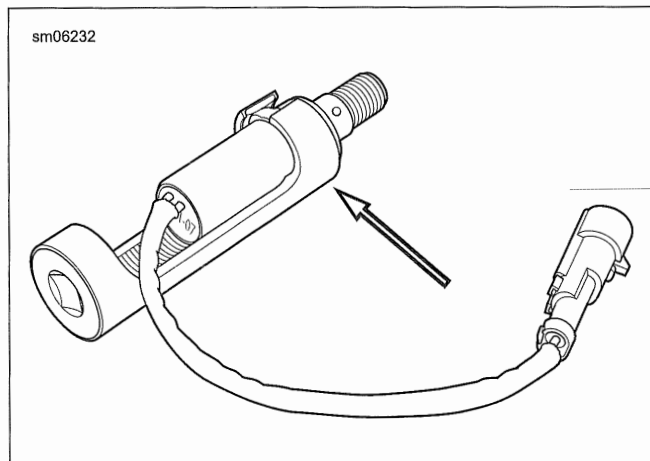

Figure 7-128. ACR Solenoid Socket and ACR
2. See Figure 7-128. Remove ACR using a locally sourced ACR SOLENOID SOCKET.
4. See Figure 7-128. Using a locally sourced ACR SOLENOID SOCKET. Tighten.